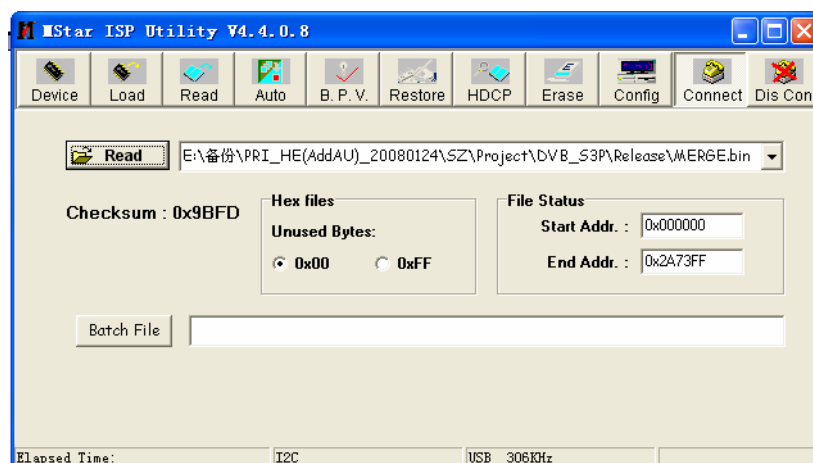

Fig. 4 Choosing upgrading file
- 4) Press “Read”, choose upgrading file, such as “MERGE.bin”; please refer to Fig. 4;
- 6) Press “Run” shown as Fig. 4 to perform upgrading in two steps, “Erase” and “Program”;